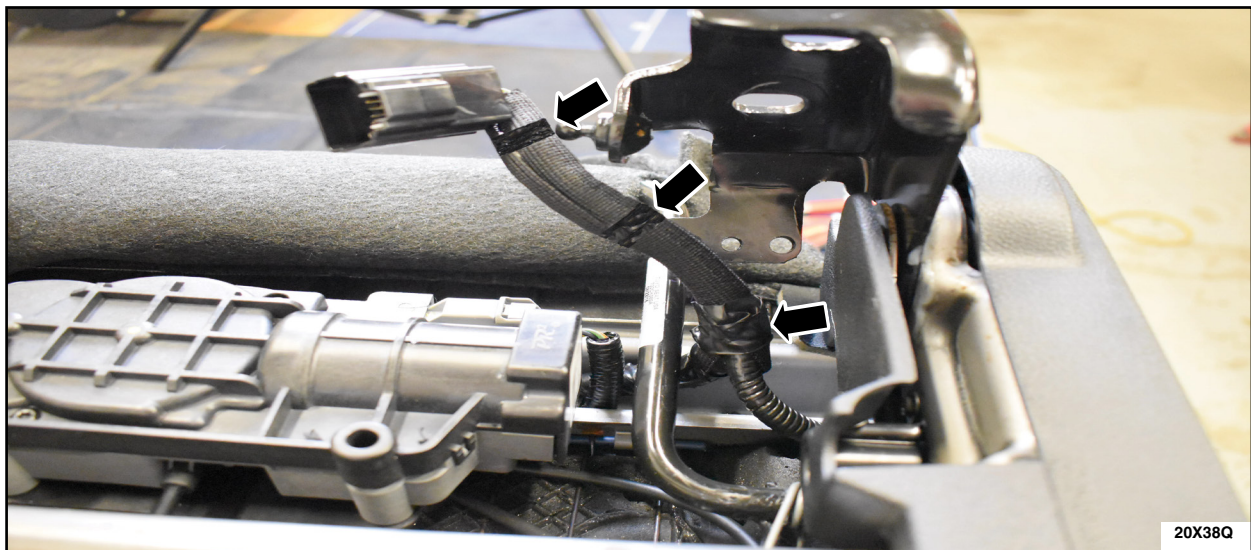

FIGURE 11
13. Install mesh sleeve and apply electrical tape to the ends and middle of the sleeve. See Figure 11.